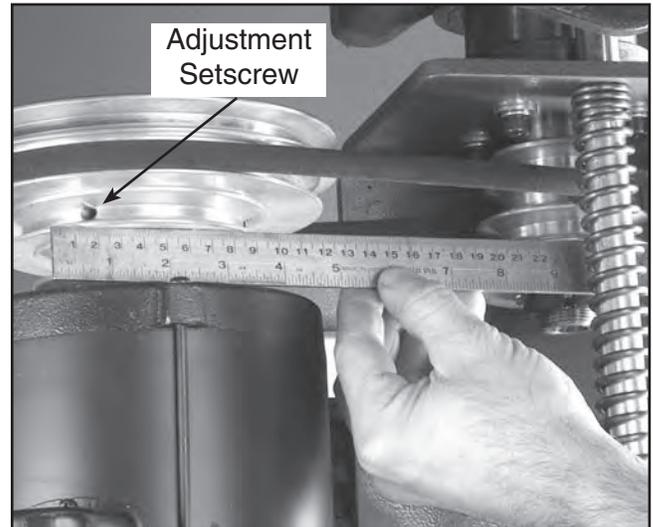

Figure 22. Inspecting pulley alignment.
3. Check the alignment with a straightedge. If the pulleys are in alignment, the straightedge should touch two sides of each pulley evenly as in **Figure 22**.
8. You can also make small adjustments in the motor pulley alignment by raising or lowering it along the motor shaft. To do this, loosen the two setscrews (one is shown in **Figure 22**) which are in the lowest groove of the motor pulley and move the pulley into position. Tighten the setscrews when the alignment is satisfactory.